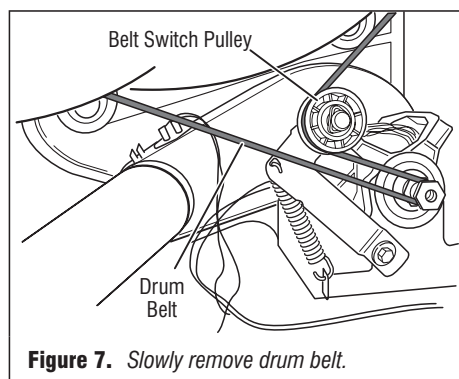

Figure 7. Slowly remove drum belt.
4. Check the belt switch and drive motor. Access the belt switch and drive motor by removing the back panel. See Removing the Back Panel, page 11. Slowly remove the drum belt from the spring-loaded belt switch pulley, gently letting the belt switch pulley down. See figure 7.